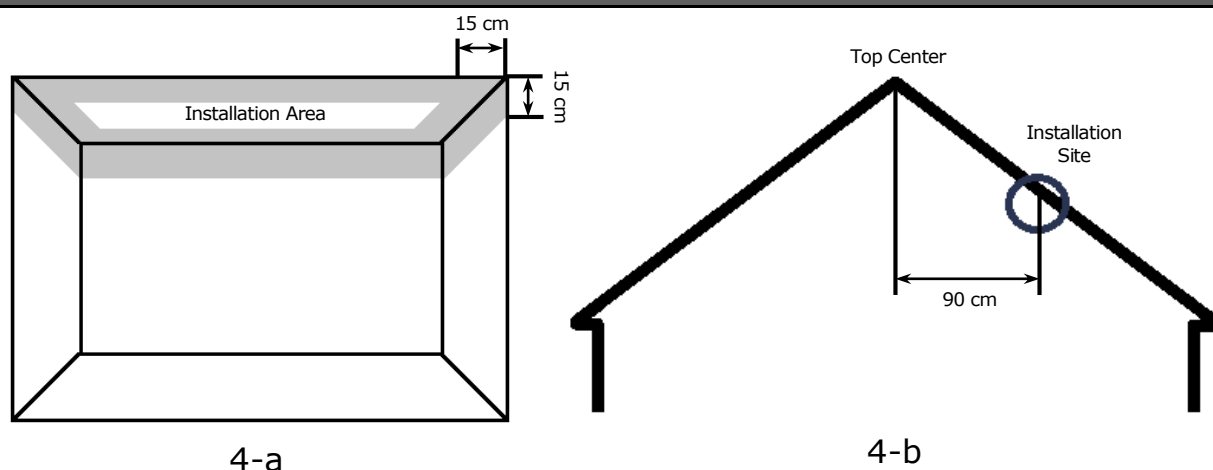

Figure 4 – Installation of the Smoke Sensor on a flat and sloping ceiling
5. The Users shall observe recommendations on ceiling installation (See Figure 4).
NOTE. When installing the Smoke Sensor on the ceiling, you should keep it at a distance of at least 30 cm from lamps and decorations, as well as at a distance of at least 15 cm from walls and corners (See Figure 4).
(Figure 4-a)
(Figure 4-b)